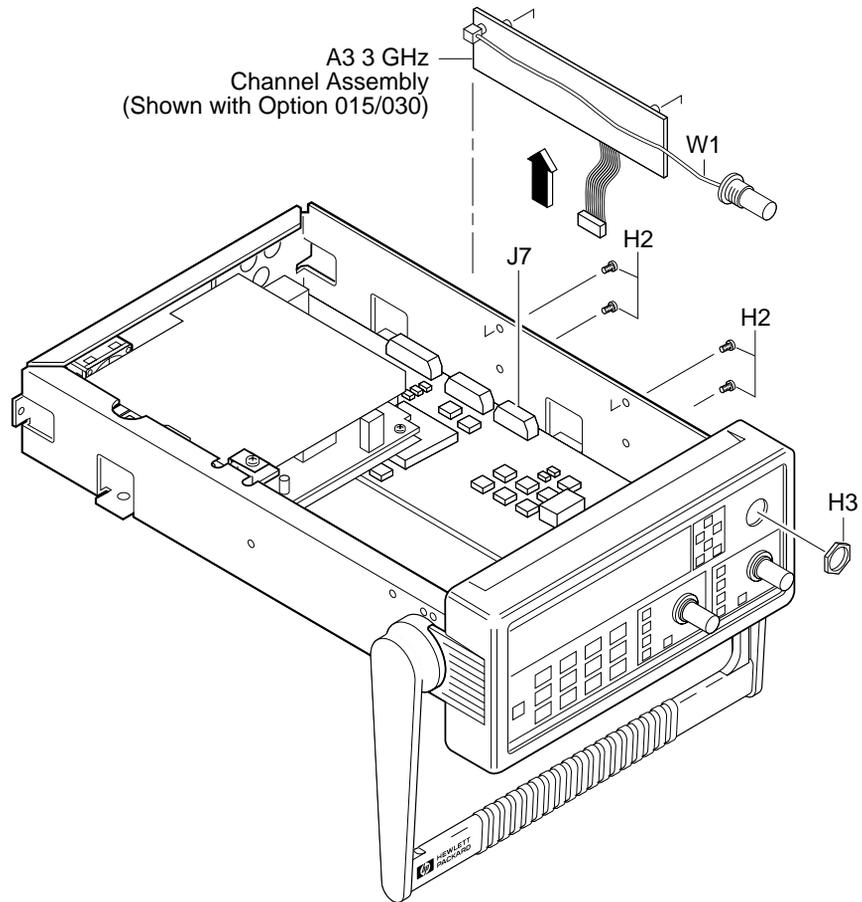

Figure 3-8. Optional Channel Input Assembly Removal
3 Pull W1, which is the optional channel assembly cable, out of the Channel 3 (or 2) opening in the front panel assembly as shown in Figure 3-8. For the Option 050 or 124, the connector is part of the Option assembly.
- 4 Disconnect flat-ribbon cable of the optional channel from connector J7 of A1 Motherboard Assembly as shown in Figure 3-8.**
- 5 Remove the four (two or three for Option 050 or 124) screws (H2) attaching the optional channel to the chassis as shown in Figure 3-8.**